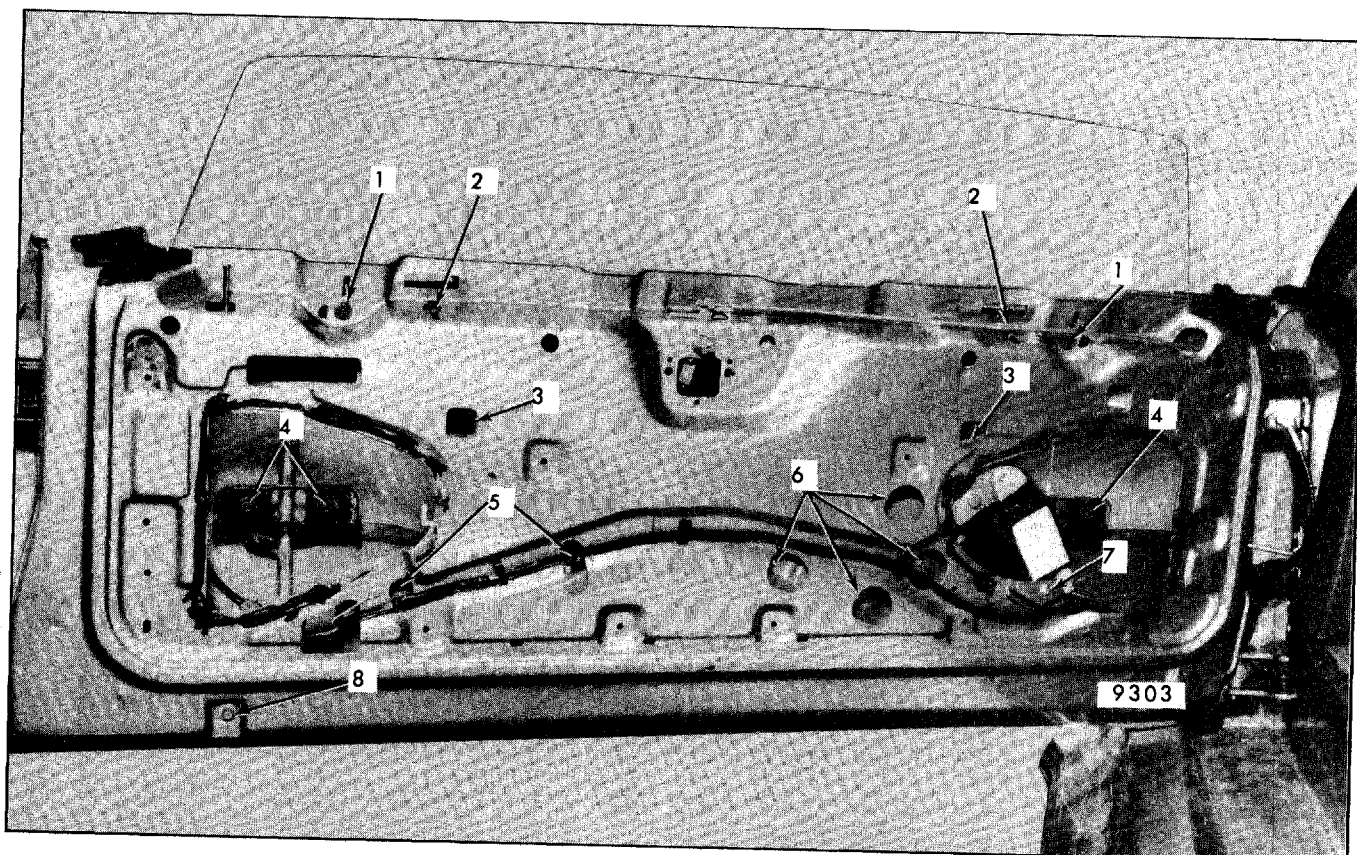

Fig. 7-127 - Tailgate Glass Removal
2. Mark location of up-travel stop attaching bolts and remove up stops, Figure 7-127, item 1.
3. Mark location of belt trim support retainers, loosen attaching bolts and slide away from glass, Figure 7-127, item 2.
5. Operate tailgate glass to a point that sash channel to glass attaching nuts are visible through holes in inner panel and remove attachments, Figure 7-127, item 3.
6. Remove guide plate to glass attachments working through left and right access holes, Figure 7-127, item 4.
2. With glass in the full up position, mark location of belt trim support retainer attaching bolts and loosen bolts, Figure 7-127, item 2.
3. Mark location and remove inner panel cam attaching bolts, Figure 7-127, item 5.
4. Remove sash panel cam to glass attaching nuts and pull cam from glass, Figure 7-127, item 3.
3. Using spot-weld cutter J-8943-01 or equivalent drill out spot-welds securing remote assembly to tailgate inner panel (Fig. 7-127).